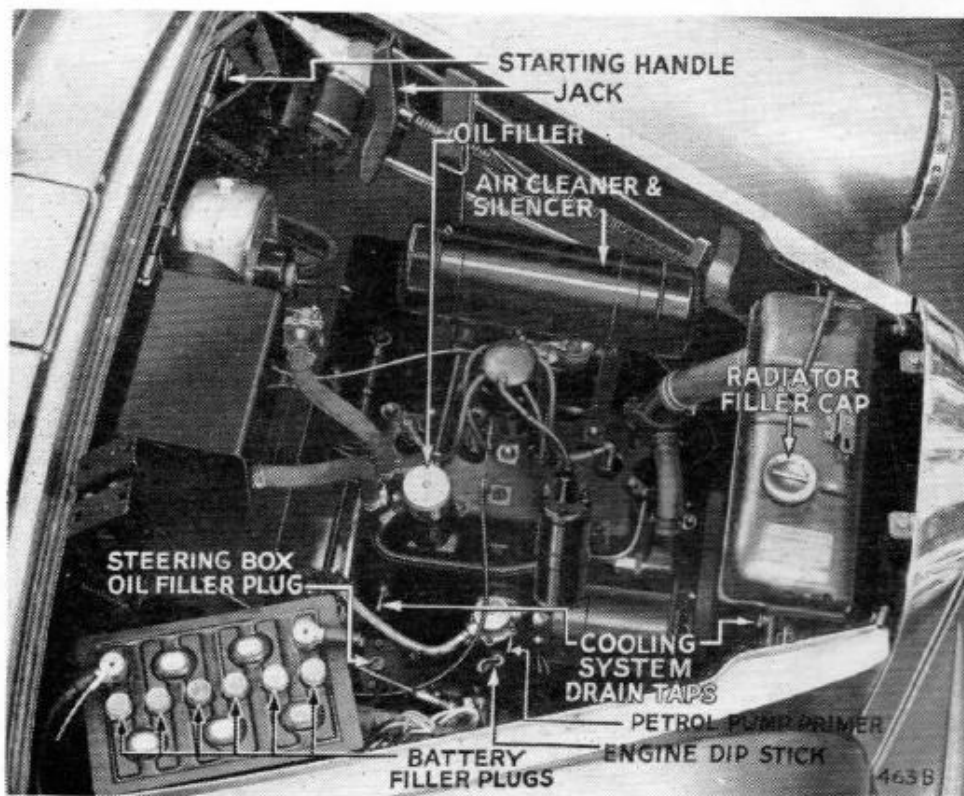

Fig. 5.
Maintain the oil level in the engine sump at the top mark on the dipstick. Wipe the stick before taking a reading (see Fig. 5). Dipstick is on right side of engine.
**Every 200 miles** or 300 km. the oil level should be checked and topped up if necessary. Withdraw dipstick and wipe clean, then insert and push fully home before withdrawing for reading (see Fig. 5). Should the level be at the lower mark on the dipstick 2 pints (1.1 litres) of oil will be required for topping up.